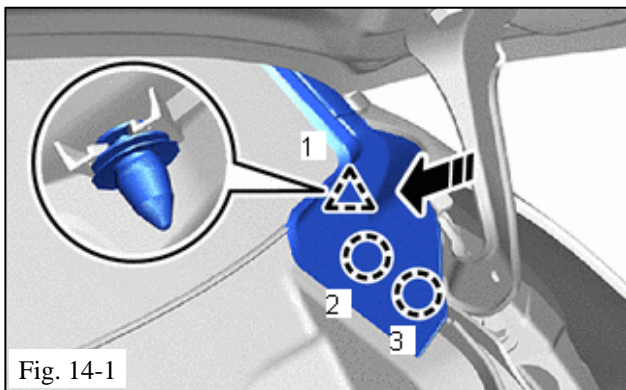

Fig. 14-1
- (a) Engage the clip and claws to install the windshield outside moulding LH as shown in (Fig. 14-1).